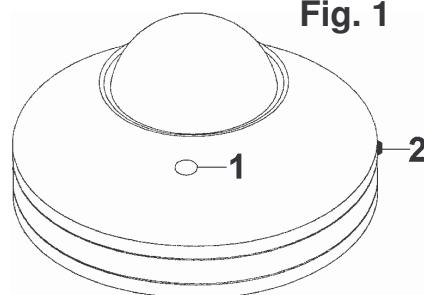

Fig. 1
- Fig. 1 #1: indicator lamp: is green when the device is switched on, turns red when there is detection.
- Fig. 1 #2: 4-position selection switch:
- Set the selection switch (fig. 1 #2) to the "1" position.
- Switch on the power. The load shouldn't work and the indicator lamp (fig. 1 #1) should be green. It takes the device some 5 to 10 sec. to react when movement is detected. The indicator lamp should turn red and the load should work. When there is no new detection, the load should stop working and the indicator lamp should return to green after 5 to 30 seconds.
- Set the selection switch (fig. 1 #2) to position 2. When the ambient light is >10Lux, the **PIR1200C** shouldn't detect anything. In <10Lux conditions, operating time should be 25-35 seconds.
3. Werking (zie fig. 1 op blz. 1)
- Fig. 1 #1: contolelampje: is groen wanneer het toestel aanstaat, wordt rood bij een detectie.
- Fig. 1 #2: keuzeschakelaar met 4 posities:
- Zet de keuzeschakelaar (fig.1 #2) op "1".